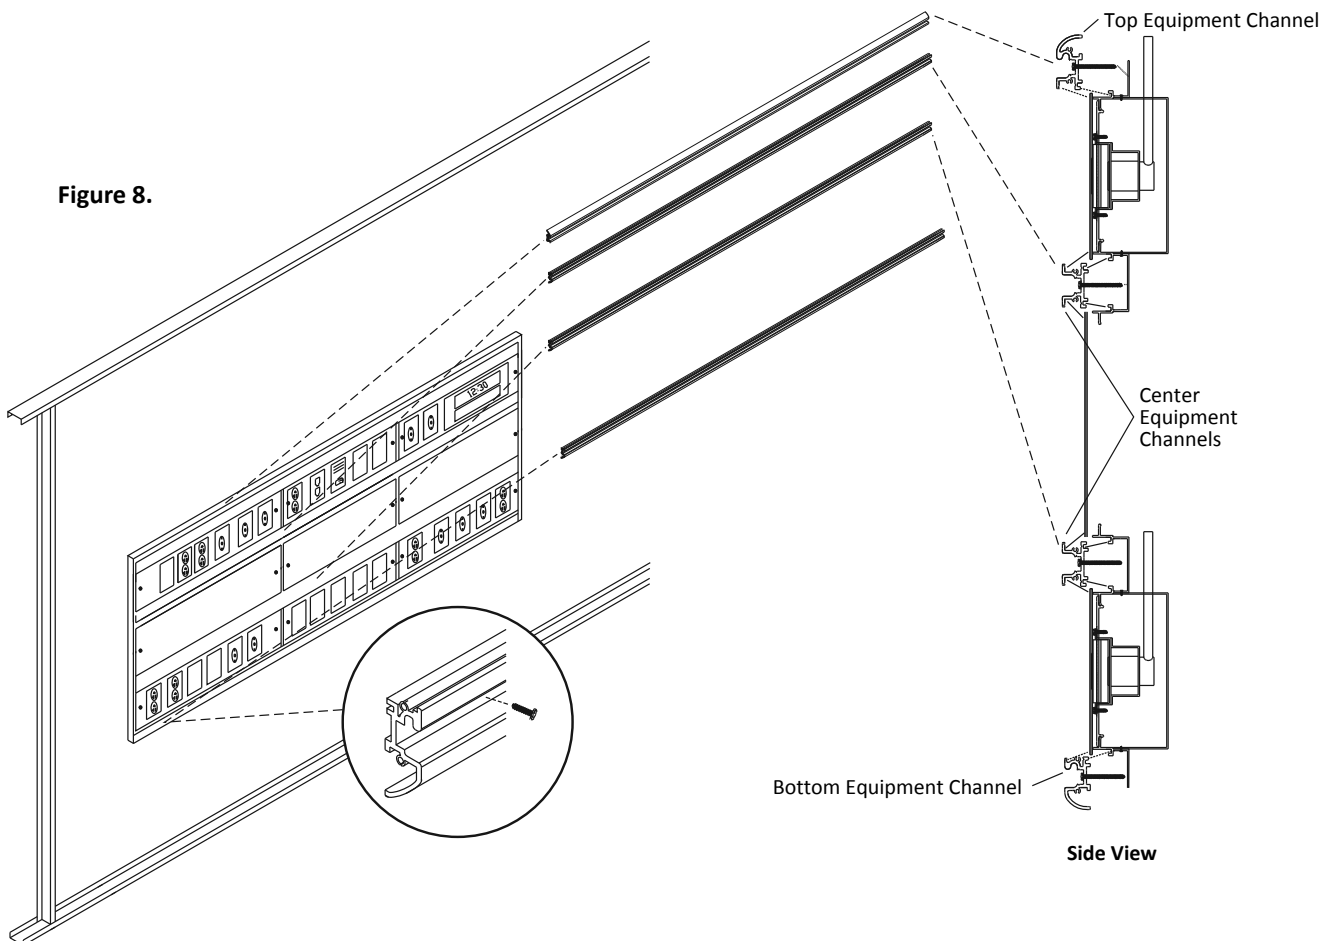

Figure 9.
1. Attach the end caps to the unit with the #6 x 1" screws provided (Figure 9).